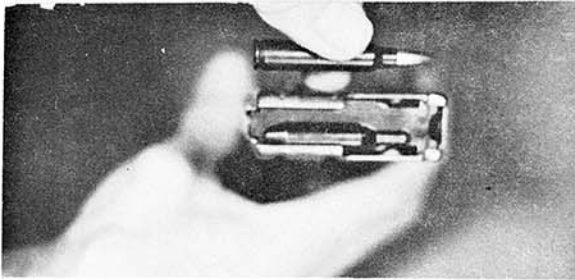

Figure 2-12. Magazine Loading,
a. Loading the Magazine. The magazine has a capacity of either twenty or thirty rounds depending upon the magazine provided. It may be loaded with any amount up to these capacities. The magazine follower has a raised portion resembling the outline of a cartridge. Cartridges are loaded into the magazine so that the tips of the bullet point in the same direction as the smaller end of the raised portion of the follower (See Figure 2-12 and 2-13 above).